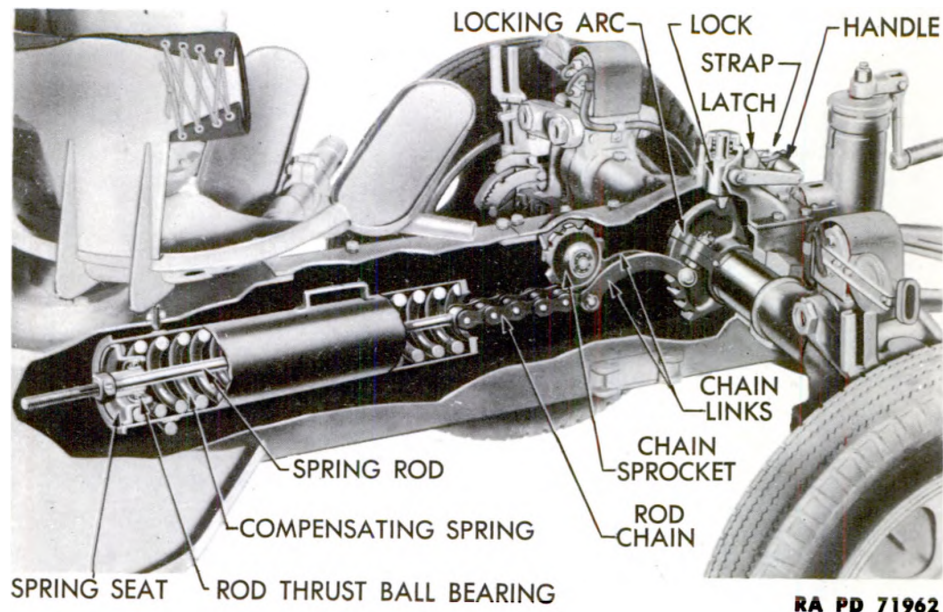

Figure 66 – Rear Chassis Compensating Spring, Arc, and Lock – Cutaway View
(1) The function and operation of the rear chassis compensating spring, arc, and lock (fig. 66) are the same as those of the front chassis compensating spring, arc, and lock. The construction and action of the lock handle and lock are very much the same. There is some difference in the construction and action of the spring, arc, and other parts.
(2) The compression spring, encased in its housing, is held in the rear girder by trunnion pins and screws. The spring compression rod and seat are connected to a single locking arc by a short length of roller chain and a pair of links. The chain is carried under a ball bearing mounted sprocket when the axle is rotated to give a straight line pull on the spring compression rod. The gun stay is used as the lever for rotating the rear axle.